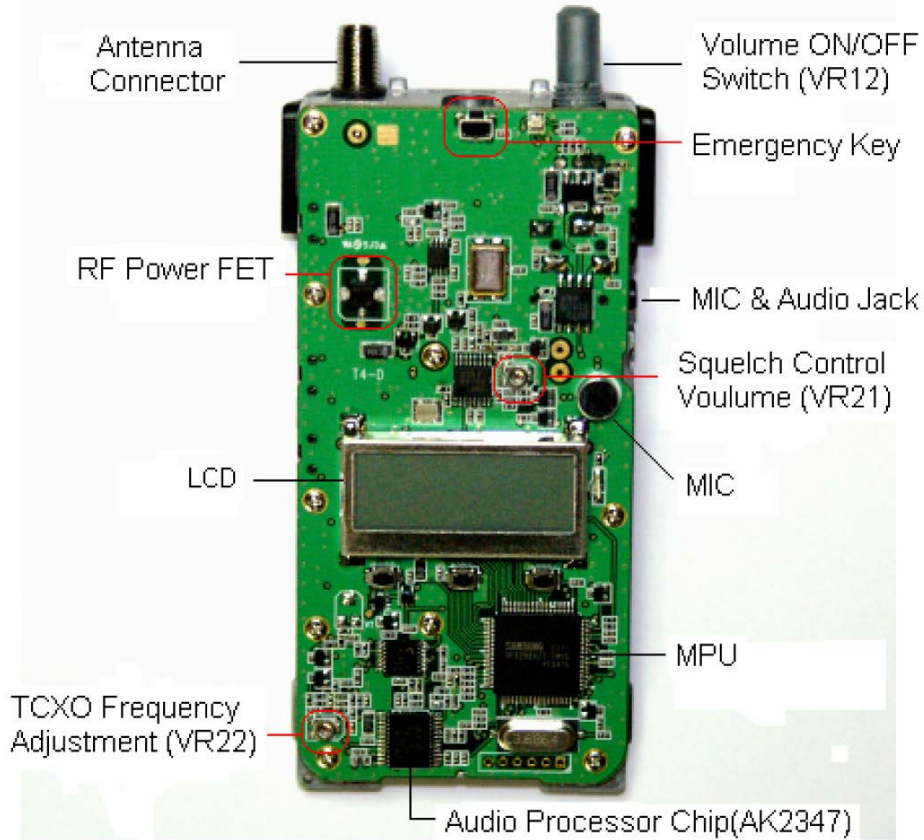

Figure 9-3) Main Board Component Side
- 2) Set RX mode after all cables are connected as Figure 9-3) with HP8920.